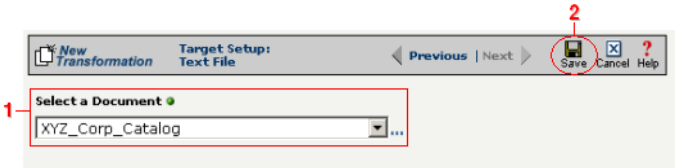

Figure 3-16. Choose which pre-defined document definition you will use for your target.
- 2 Compare your work with Figure 3-16 below, then click **Save** to save your work and exit the wizard.